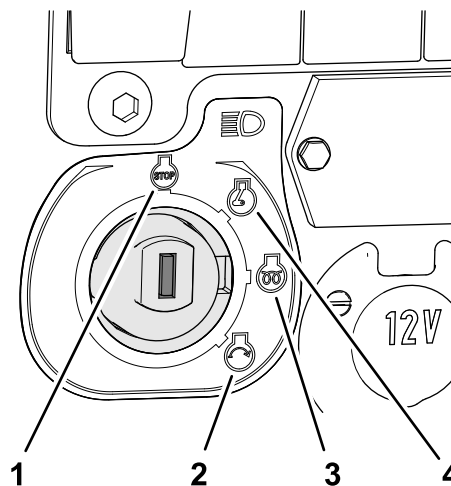

Figure 33
- Turn the ignition key to the RUN position (Figure 33).